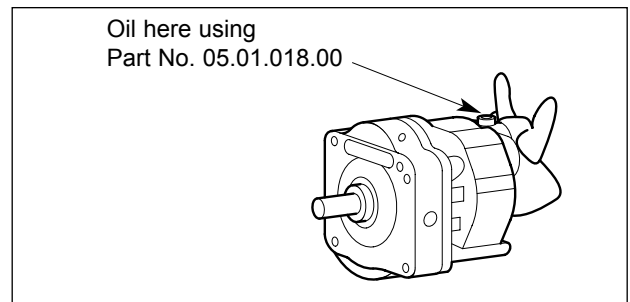

Figure 9. Lubricating Gear Motor Bearing
3. Lubricate the bearing by applying 10-12 drops of Mobil SHC 624 lubricant (Hatco part no. 05.01.018.00) to the bearing. See Figure 9.